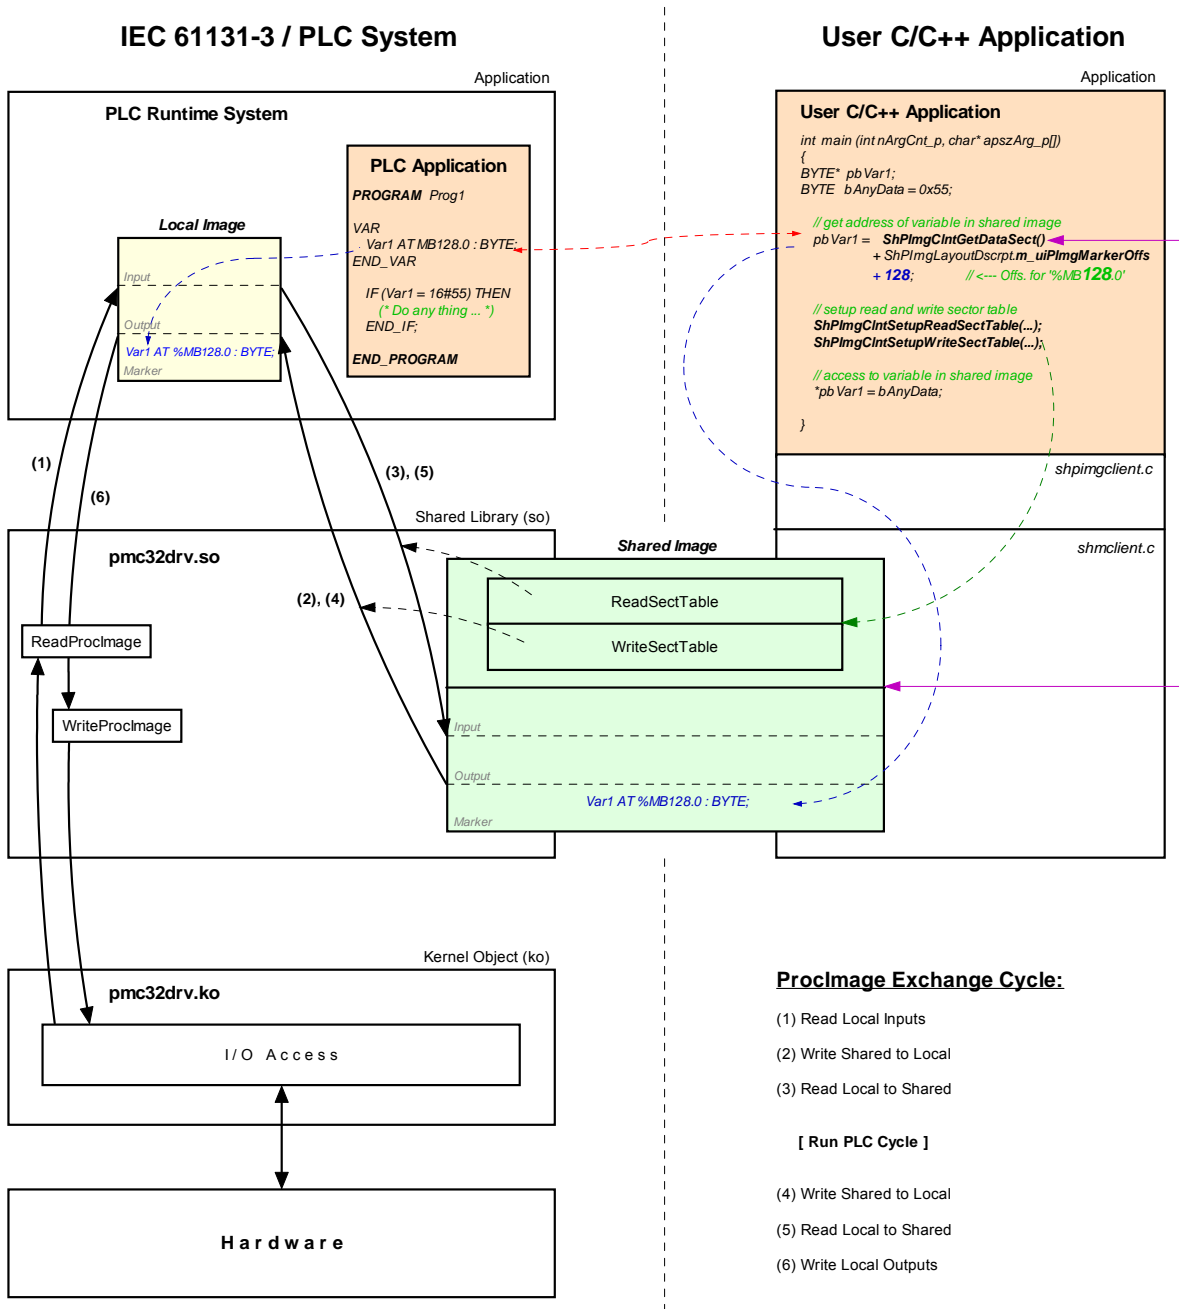

Figure 31: Overview of the shared process image
Not all variables are utilizable via the shared process image within a C/C++ application. Only those directly addressed variables that the PLC program generates within the process image. As shown in Figure 31, two separate process images are used for the data exchange with an external application inside of the PLC runtime system. This is necessary to meet the IEC 61131-3 requirement that the initial PLC process image may not be modified during the entire execution of one PLC program cycle. Thereby, the PLC program always operates with the internal process image that is locally generated within the PLC runtime system ("Local Image" in Figure 31). This is integrated within the PLC runtime system and is protected against direct accesses from the outside. On the contrary, the user-specific, external C/C++ application always uses the shared process image ("Shared Image" in Figure 31). This separation of two process images enables isolation between accesses to the PLC program and the external application. Those two in parallel and independently running processes now must only be synchronized for a short period of time to copy the process data.
An activation of option "**Share PLC process image**" within the PLC configuration enables data exchange with external applications (see section 7.4.1). Alternatively, entry "*EnableSharing=*" can directly be set within section "*[Proclmg]*" of the configuration file "*/home/plc/plcmodule-c32.cfg*" (see section 7.4.3). The appropriate configuration setting is evaluated upon start of the PLC firmware. By activating option "**Share PLC process image**", the PLC firmware creates a second process image as Shared Memory ("Shared Image" in Figure 31). Its task is to exchange data with external applications. Hereby, the PLC firmware functions as Server and the external, user-specific C/C++ application functions as Client.
Sections to read and write may comprise all sections of the entire process image – input, output as well as marker sections. This allows for example that a Client application writes data into the input section of the PLC process image and reads data from the output section. Figure 31 shows the sequence of single read and write operations. Prior to the execution of a PLC program cycle, the physical inputs are imported into the local process image of the PLC (1). Afterwards, all sections defined in *WriteSectorTable* are taken over from the shared process image into the local process image (2). By following this sequence, a Client application for example is able to overwrite the value of a physical input. This may be used for simulation purposes as well as for setting input data to constant values ("*Forcen*"). Similarly, prior to writing the process image onto the physical outputs (6), sections defined in *WriteSectorTable* are taken over from the shared process image into the local process image. (4). Thus, a Client application is able to overwrite output information generated by the PLC program.
As illustrated in Figure 31, the user-specific C/C++ application exclusively uses the API (Application Programming Interface) provided by the *shared process image client*. This API is declared in the header file *shpimgclient.h* and implemented in the source file *shpimgclient.c*. It contains the following types (partly defined in *shpimg.h*) and functions: